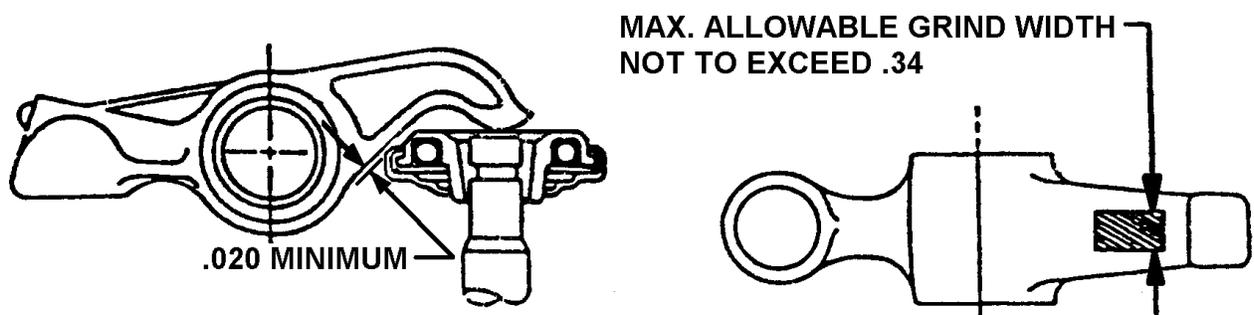

FIGURE 16-12. ROCKER ARM TO ROTOCOIL CLEARANCE
1. See Figure 16-12. A minimum clearance of .020 inch must be maintained between the rocker arm and rotocoil at the time of assembly.
2. If the minimum clearance of .020 is not present at the time of assembly, it is permissible to smoothly grind across the forging flash line on the underside of the rocker arm to obtain the specified clearance. Prior to grinding, the rocker arm bushing bore and oil passage must be protected to prevent debris entry. The grind must not exceed the width illustrated in Figure 16-12. If the required clearance cannot be obtained without exceeding this grind width, the rocker arm must be replaced.